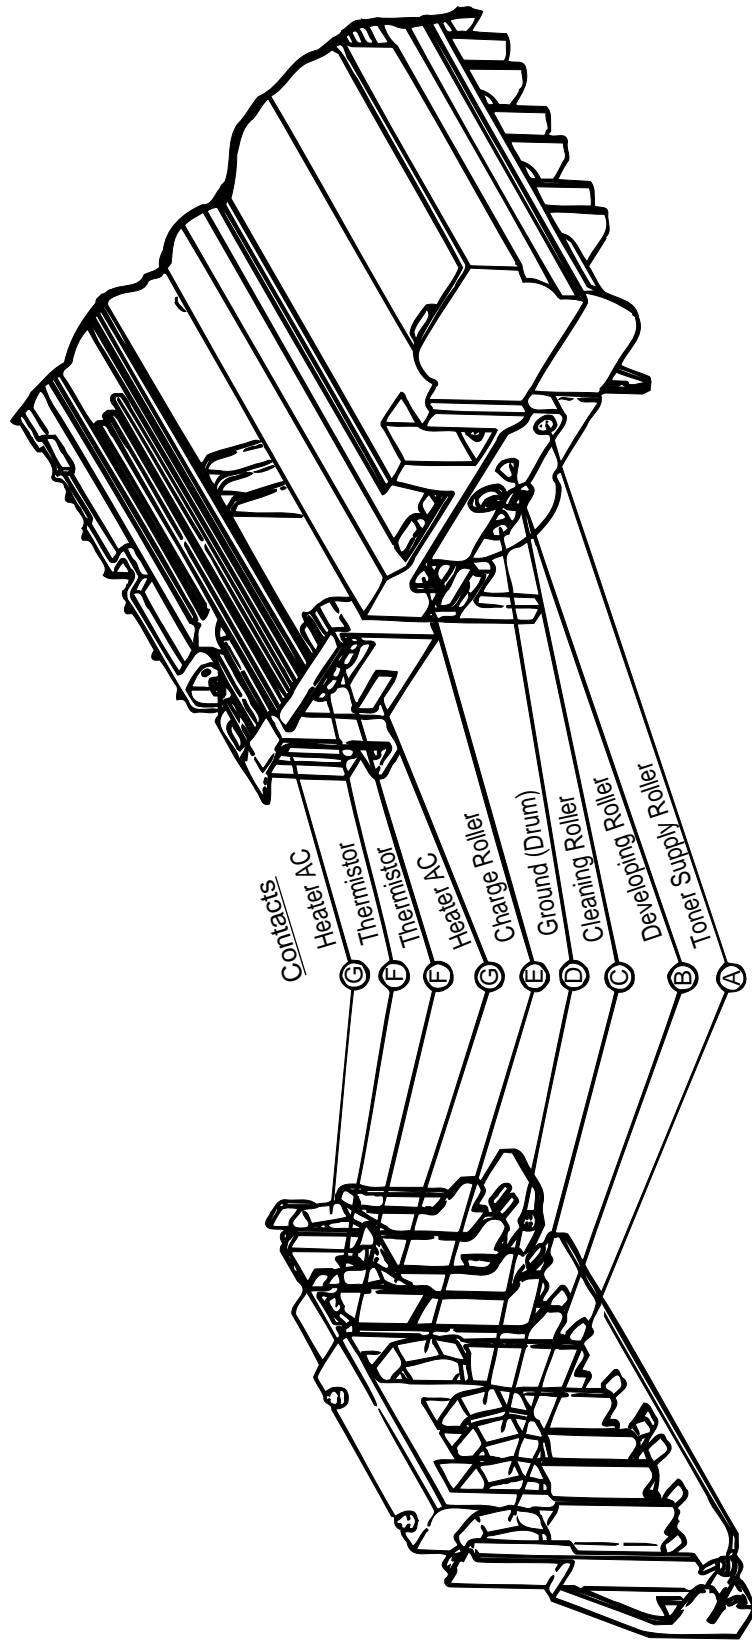

Figure 6-4
• Yes Check the heat contacts of the fusing unit and the contact assembly for poor contact (see Figure 6-4 contact ③).
- Yes Are the contact of the developing roller and the contact of the toner supply roller of the image drum cartridge in contact with the contact assembly properly (see Figure 6-4 (A) and (B))?